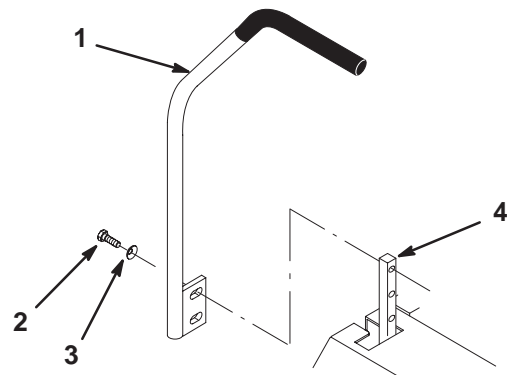

Figure 13
- Remove the 2 screws and curved washers holding the control lever to the control arm shaft (Fig. 13).
- Move the control lever to the next set of holes. Secure the lever with the 2 screws and curved washers. The cupped side of the washer should be toward the control arm shaft (Fig. 13).